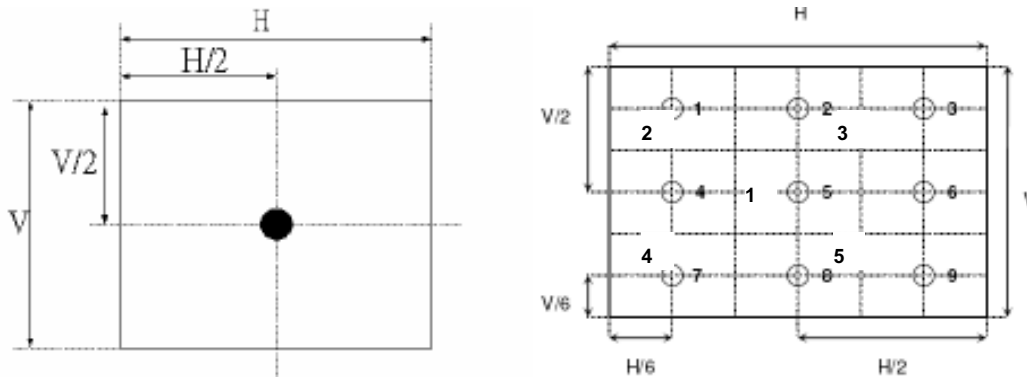

Fig.4-2 Optical measurement point
2. Surface luminance is luminance value at point 1 across the LCD surface 50cm from the surface with all pixels displaying white. From more information see Fig. 4-2. When $V_{DD} = 24V$, $I_{DD} = 12.5 A$. $L_{WH} = L_{on1}$, Where L_{on1} is the luminance with all pixels displaying white at center 1 location.